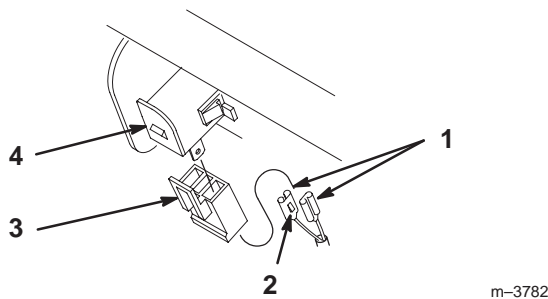

Figure 5
6. Insert terminals into plastic plug until the clips snap into position (Fig. 5). If they do not snap, turn the plastic plug around and try again.
7. Push plug onto switch until it latches (Fig. 5).